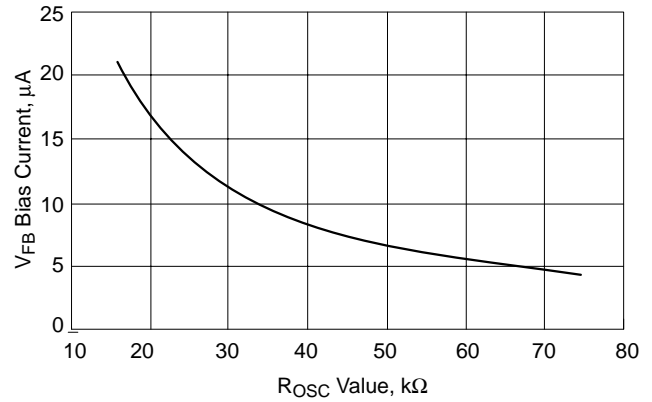

Figure 4. VFB Bias Current vs. Rosc Value
2. The  $V_{\text{FB}}$  Bias Current changes with the value of  $R_{\text{OSC}}$  per Figure 4.
To set the no-load positioning, a resistor is placed between the output voltage and  $V_{FB}$  pin. The  $V_{FB}$  bias current will develop a voltage across the resistor to increase the output voltage. The  $V_{FB}$  bias current is dependent on the value of  $R_{OSC}$ . See Figure 4.